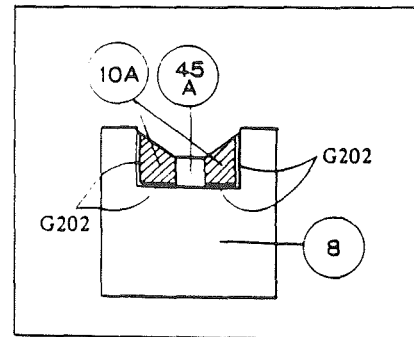

Fig. 40
- 2) If in Disassembly Procedure 7 (P. 22) the lefthand race (8) on the fiducial side has been dismantled for an unavoidable reason, use the right one as fiducial (Assuming that both the right and left races have not been dismantled).
- i) Fix (10A) x 4 to the guide rails (10A) attaching surfaces of (8), using lubricant G202. (Fig. 40).
- ii) Attach (10B) x 4 to both the guide rail (10B) attaching surfaces of roller race (male) (7), using lubricant G202. (Fig. 40).